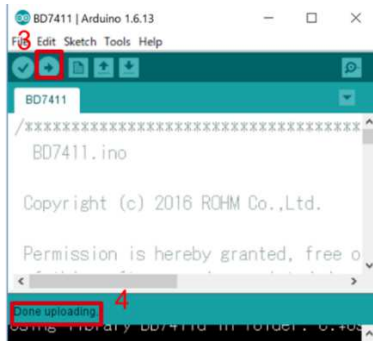

Figure 4. Uploading
3. Write the program by pressing right arrow button for upload (Figure 4)
4. Wait for the message "Done uploading" (Figure 4)